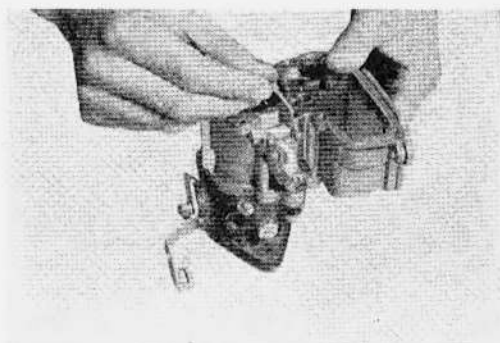

Figure 123
- (11) Remove low speed jet (Fig. 123).